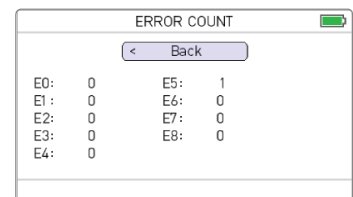

Figure 49. Error count
- Press . ERROR COUNT is shown (See figure 49)